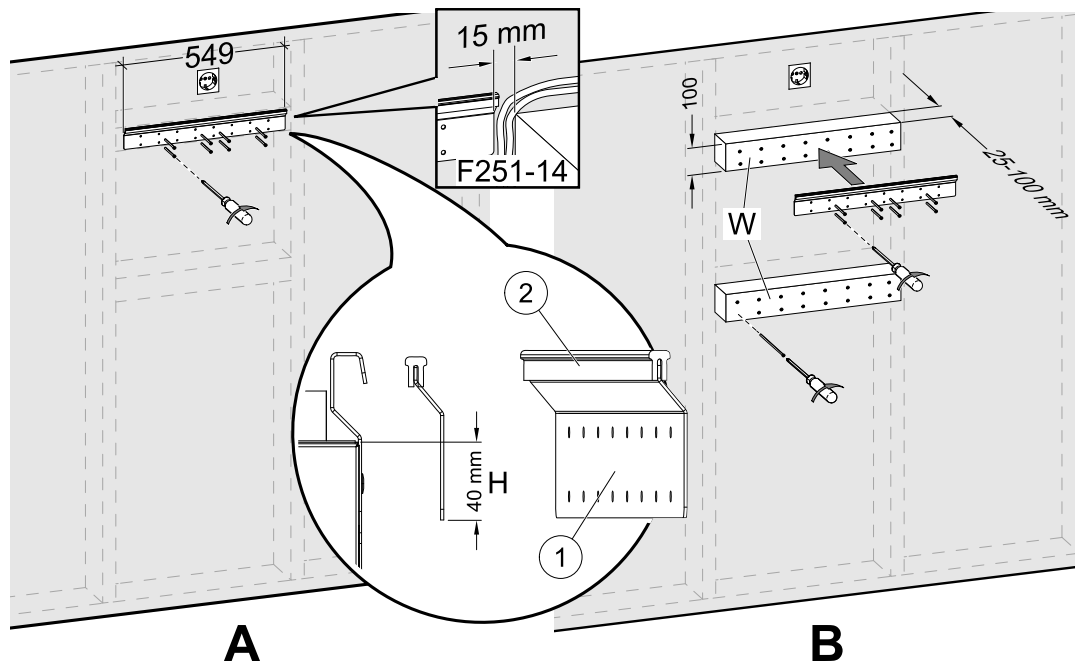

Fig. 6 Installation of mounting bracket without or with wooden blocks
2. Screw the mounting bracket (pos. 1) with the anti-vibration pad (pos. 2) to the wall (figure 6, pos. A). **Screws are not included**, choose them based on your wall type. Use appropriate holes to screw the bracket firmly to the wall. Bottom side of bracket should be 40 mm (H) below top of unit position.
In case the depth of cabinets is much greater than the unit, install wooden blocks (pos. W) to compensate the missing distance (figure 6, pos. B). Then install the mounting bracket on the upper block. Choose thickness of blocks according to your needs.